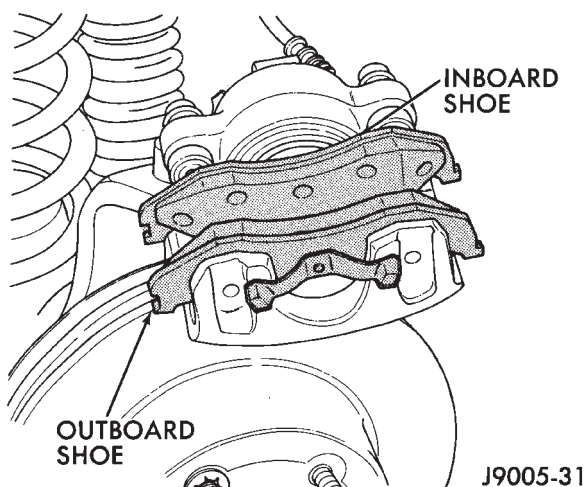
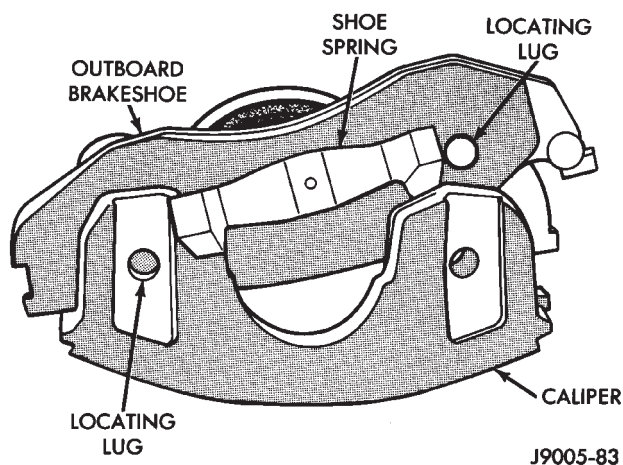

Fig. 4 Caliper Removal
Fig. 5 Removing Outboard Brakeshoe
- (6) Lift caliper off steering knuckle (Fig. 4).
- (7) **If original brakeshoes will be used, keep them in sets (left and right as they are not interchangeable).**
- (8) Remove outboard shoe. Press one end of shoe inward to disengage shoe lug and rotate shoe upward until retainer spring clears caliper. Then press opposite end of shoe inward to disengage opposite shoe lug and rotate shoe up and out of caliper (Fig. 5).
(5) Verify that locating lugs on outboard shoe are seated in caliper (Fig. 4).